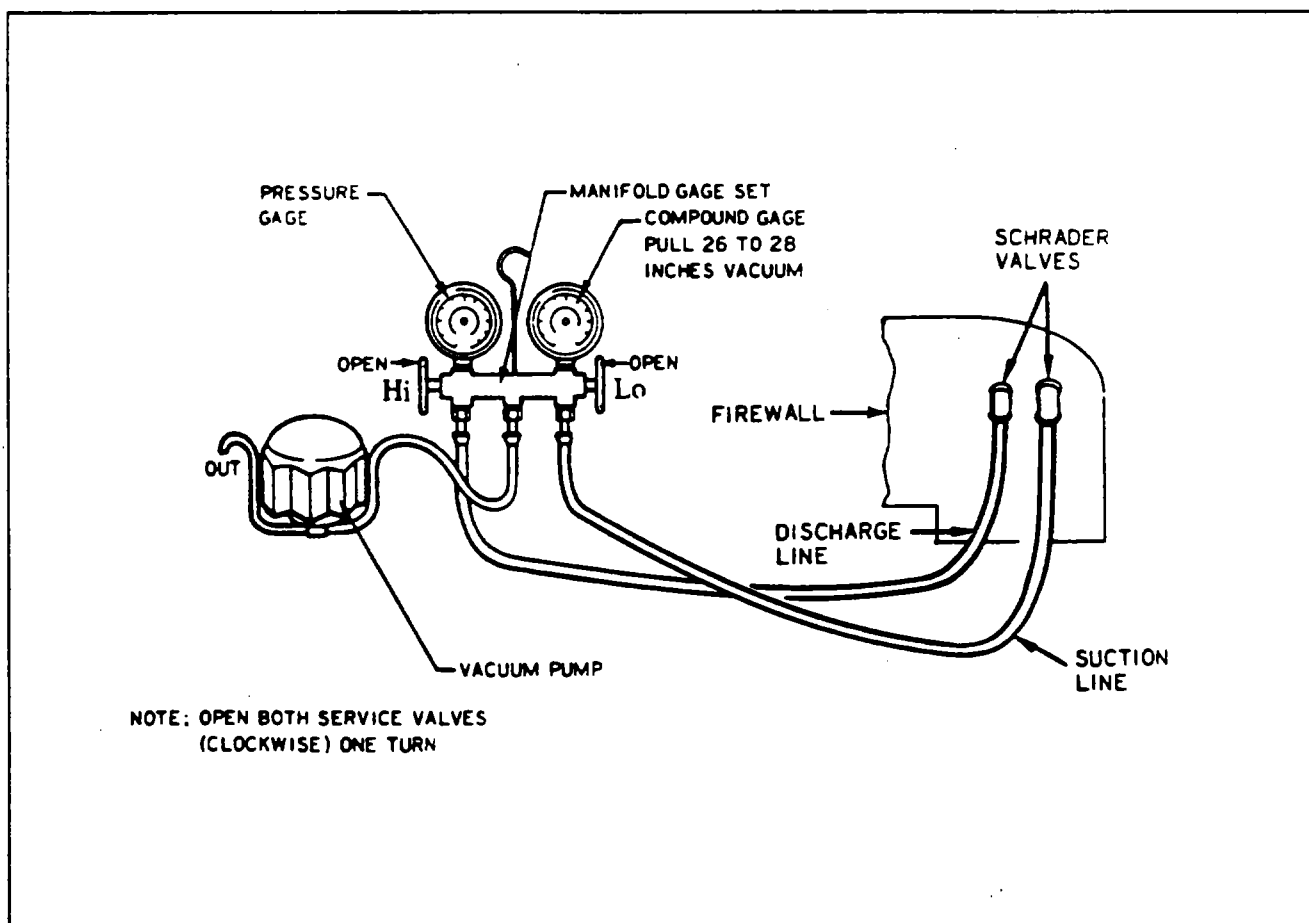

Figure 21-26. Evacuation Hookup
2. Connect the manifold gauge set to the Schrader valves on the fire wall. (Refer to Figure 21-26.)